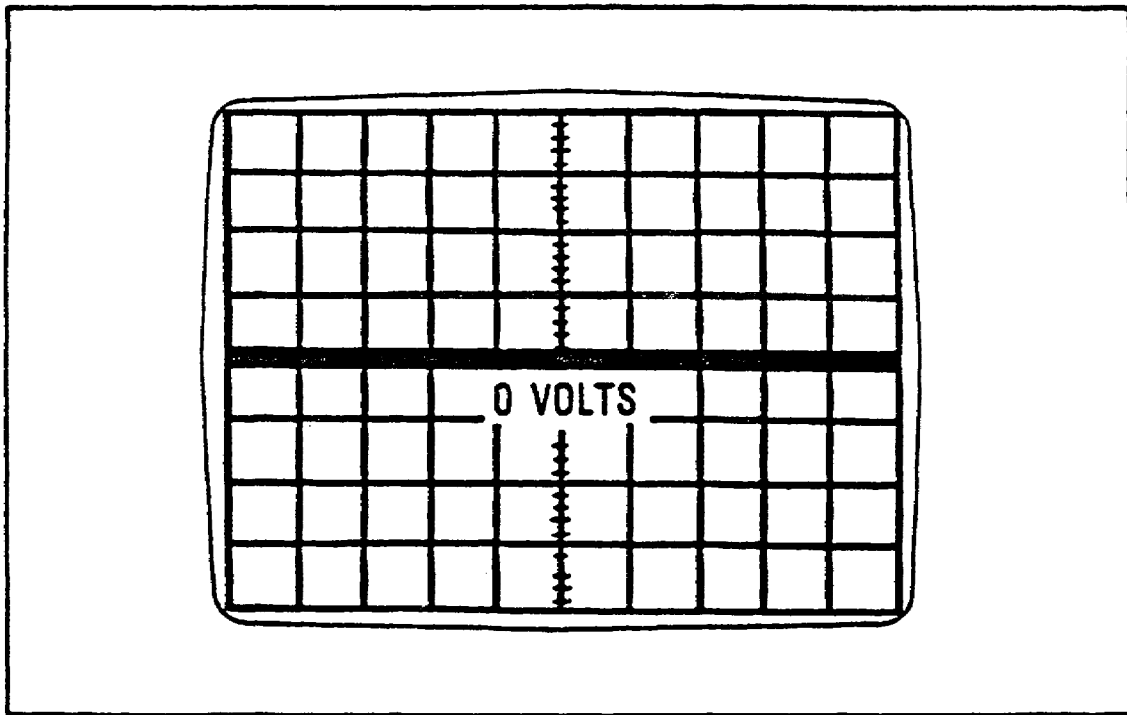

FIGURE 5. SINGLE TRACE - NO SIGNAL APPLIED.
Step 10. Adjust the FOCUS control for a well defined display. The oscilloscope is now set up for a single trace display (see figure 5, below).